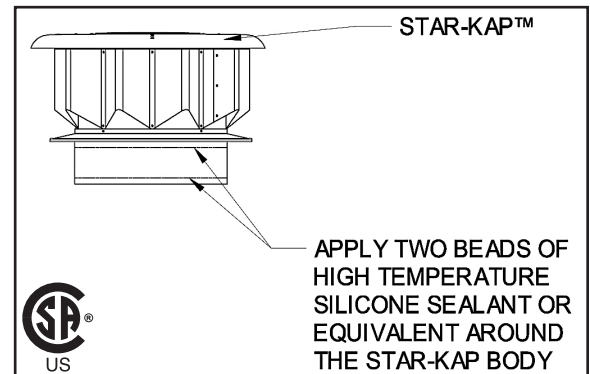

Figure 1
1. Before installation, apply two (2) beads of high temperature silicone sealant or equivalent around the bottom of the storm collar and one (1) inch above the end of the Star-Kap body. (See Figure 1)
2. Insert the Star-Kap into the inside of the single wall vent pipe, making sure the Star-Kap is seated against the storm collar. Fasten the Star-Kap to the single wall vent pipe, by using three (3) sheet metal screws. Placement of the screws should be approximately 1/2" from the end of the single wall vent pipe. The heads of the screws should be covered with high temperature silicone or equivalent.